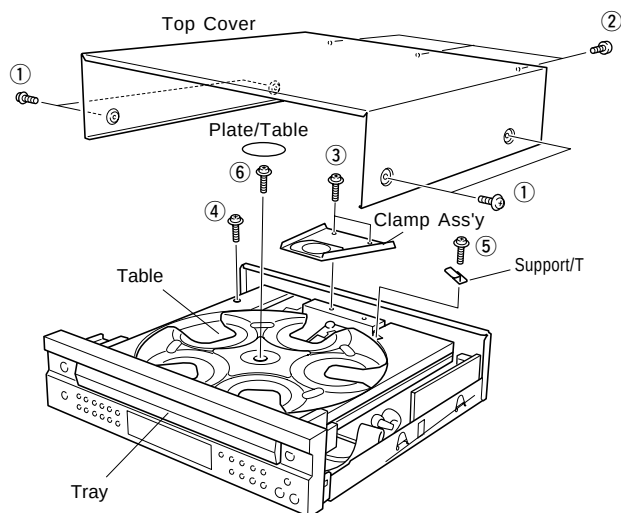

Fig. 1
- Remove 4 screws (①) and also 3 screws (②) as shown in Fig. 1.
- Remove 2 screws (③) as shown in Fig. 1.
- Remove 1 screw (④) as shown in Fig. 1.
- Remove 1 screw (⑤) and then remove the Support/T as shown in Fig. 1.
- Remove the Plate/Table as shown in Fig. 1.
- Remove 1 screw (⑥) and then take off the Table as shown in Fig. 1.